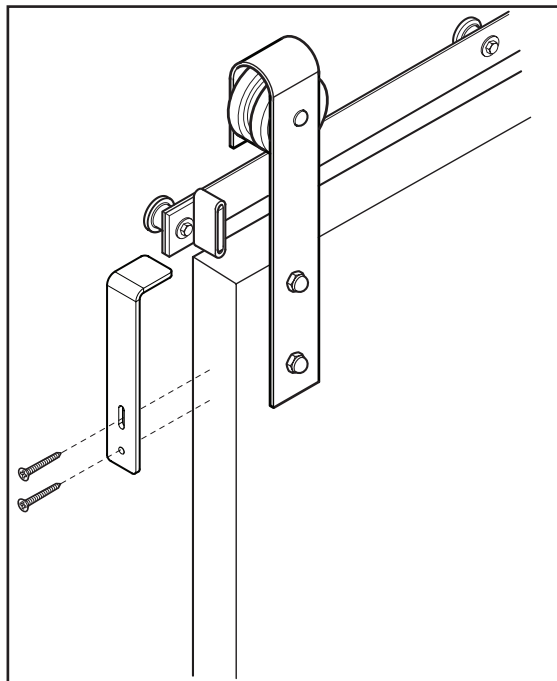

Figure 9
18. Insert a phillips screw (provided) in the top slot using a drill with a phillips bit, but do not tighten. Make final adjustments to ensure proper placement by sliding the bracket into position. Tighten the screw (Figure 9).
19. Install second phillips screw (provided) using a drill with a phillips bit into the lower hole (Figure 9).